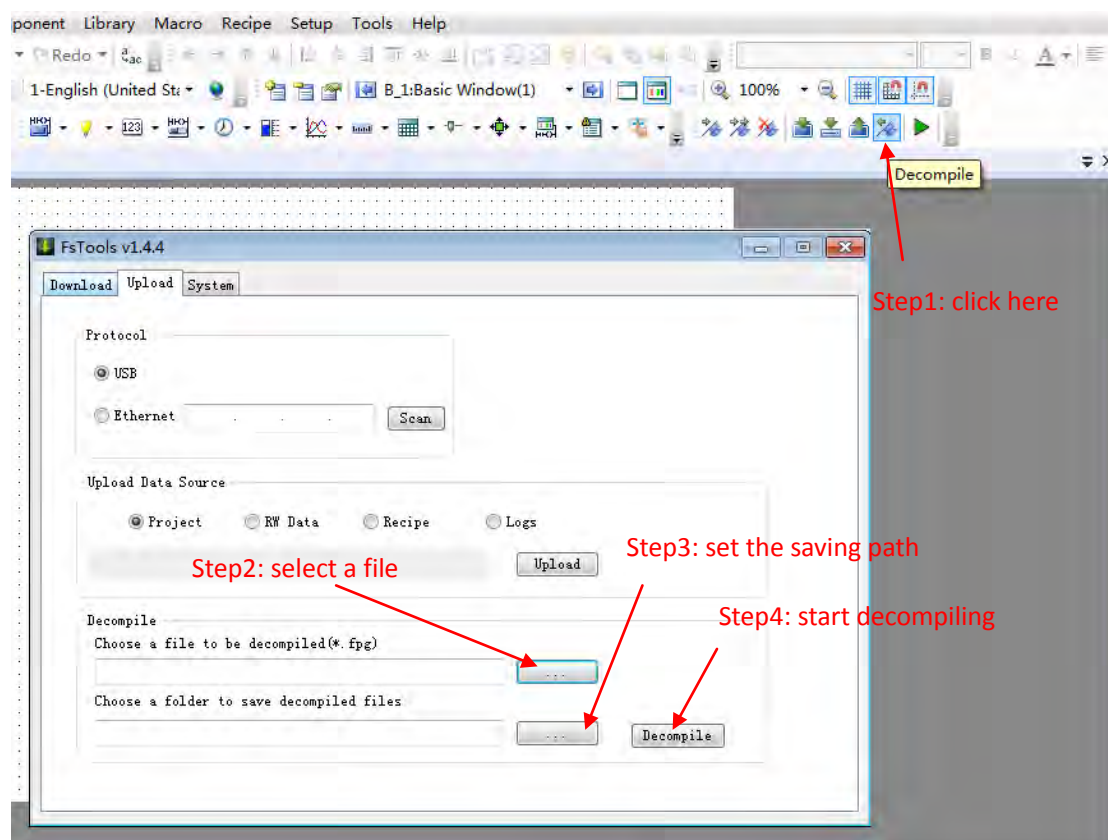

Fig. 17
① Firstly, click the tool button “Decompile”, select the package fpg file, set the project saving path, and click the “Decompile” button, as shown in Fig. 17.